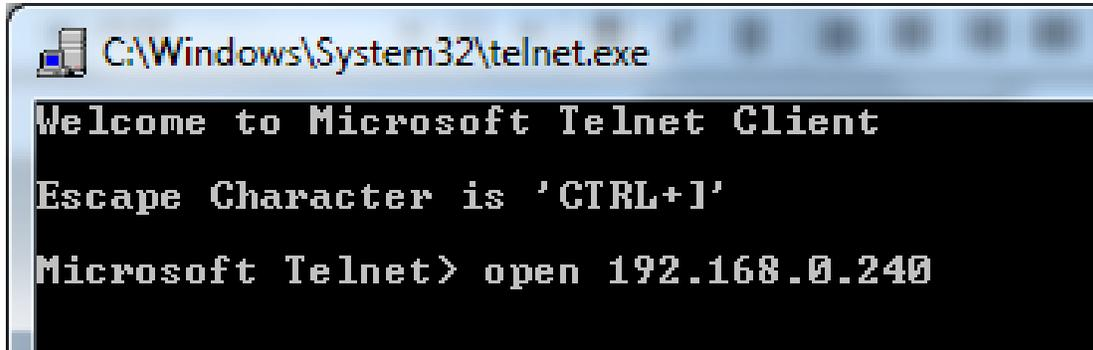

Figure C3. Windows 7 Telnet screen 3
Set the IP address to your desired address, and make sure that the subnet mask is set to 255.255.255.0 as shown in Figure C3. You don’t have to fill in the default gateway or DNS server addresses.
3. At the prompt, type “open [RibEye IP address]” or “o [RibEye IP address].” For example, “open 192.168.0.240” as shown in Figure C3.